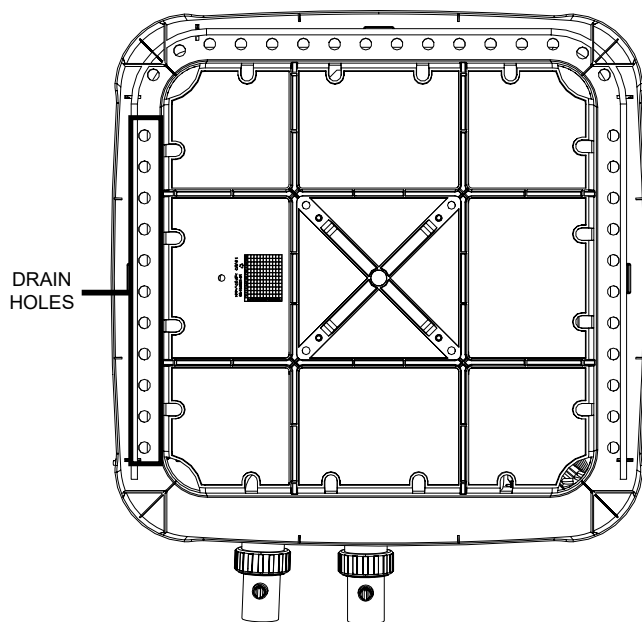

Figure 43. Condensate Drain Hole Locations
1. Routinely check to be sure the condensation drain holes in the base of the unit are not plugged with dirt or debris. See Figure 43 for condensate drain hole locations.